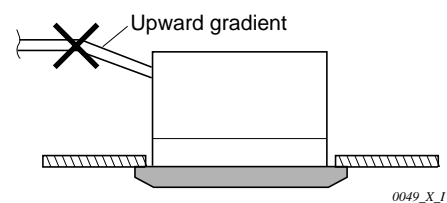

Fig. 3-15
- Do not install pipe with an upward gradient after the connection port. It will cause the drain water to flow backwards and leak when the unit is stopped. (Fig. 3-15)